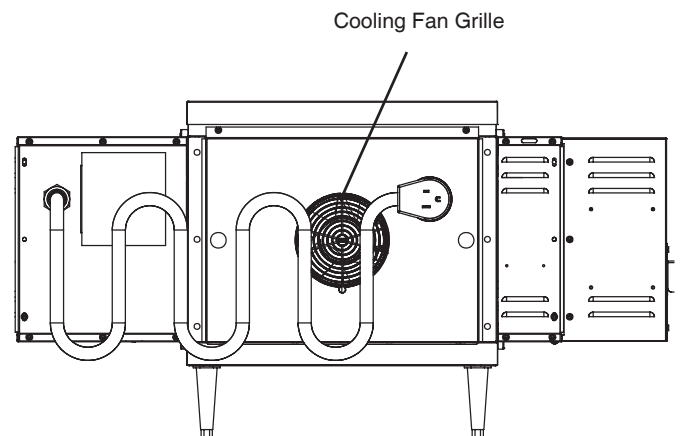

Figure 4-1. Oven Cooling Fans
2. Check to see if the cooling fans (see Figure 4-1 page 13) are operating when the blower switch (see Figure 3-6) is turned “ON” or “I”. The cooling fans cool the control components and blower motor. The cooling fans, located at the rear of the oven blows air into and through the cabinet. Air is exhausted through the front of the cabinet and also out the front of the oven. Refer to Daily Maintenance Section for fan intake checking procedure.